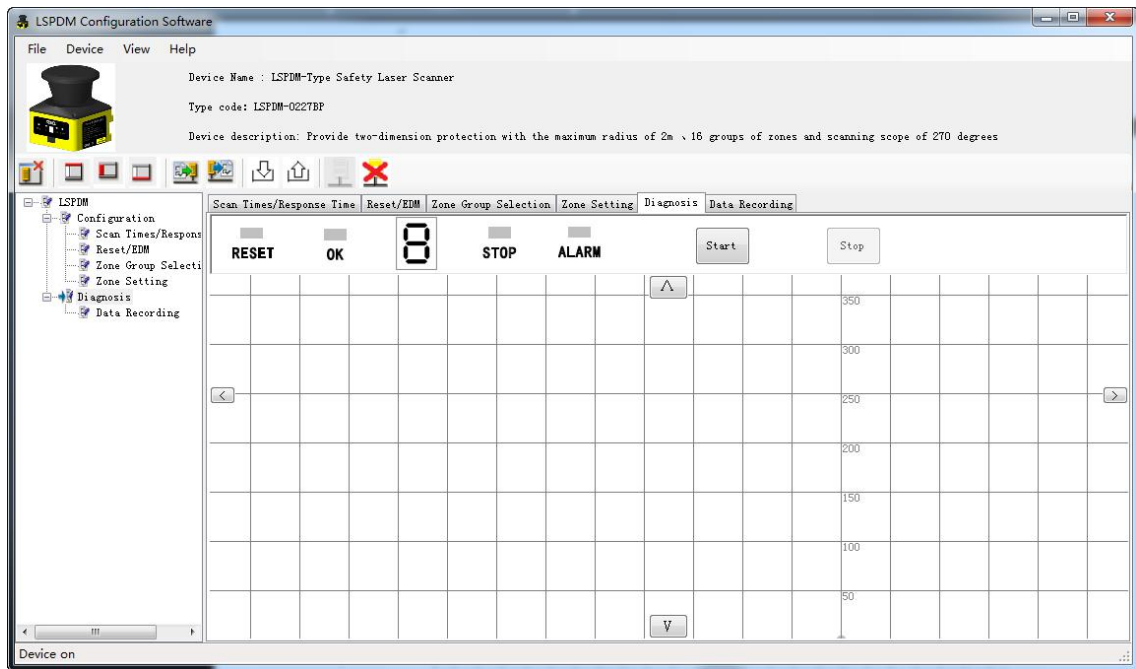

Fig.3.4.1 Diagnosis tab
- 2) Switch to the corresponding [Diagnosis] tab, As shown in Fig. 3.4.1: